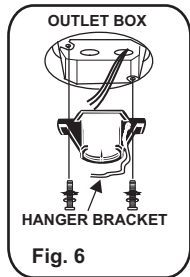

Fig. 6
Step 3. Secure the Hanger Bracket to the ceiling outlet box using the screws provided with your outlet box in conjunction with the lock-washers provided with the fan. (Fig. 6)